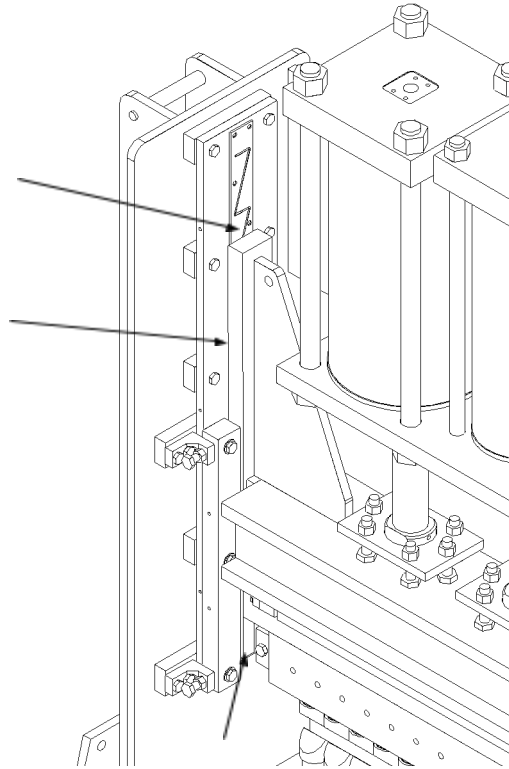

FIGURE 3 – use a feeler gauge to check tightness of the end guides
4. There shouldn't be any space between the end guides and the top jaw. To test this, use a 0.020” feeler gauge to fit between the top jaw and the guides. It shouldn't be able to fit between the guides and the brass. Try it in several spots when the top jaw is lowered all of the way down. Note figure 3.